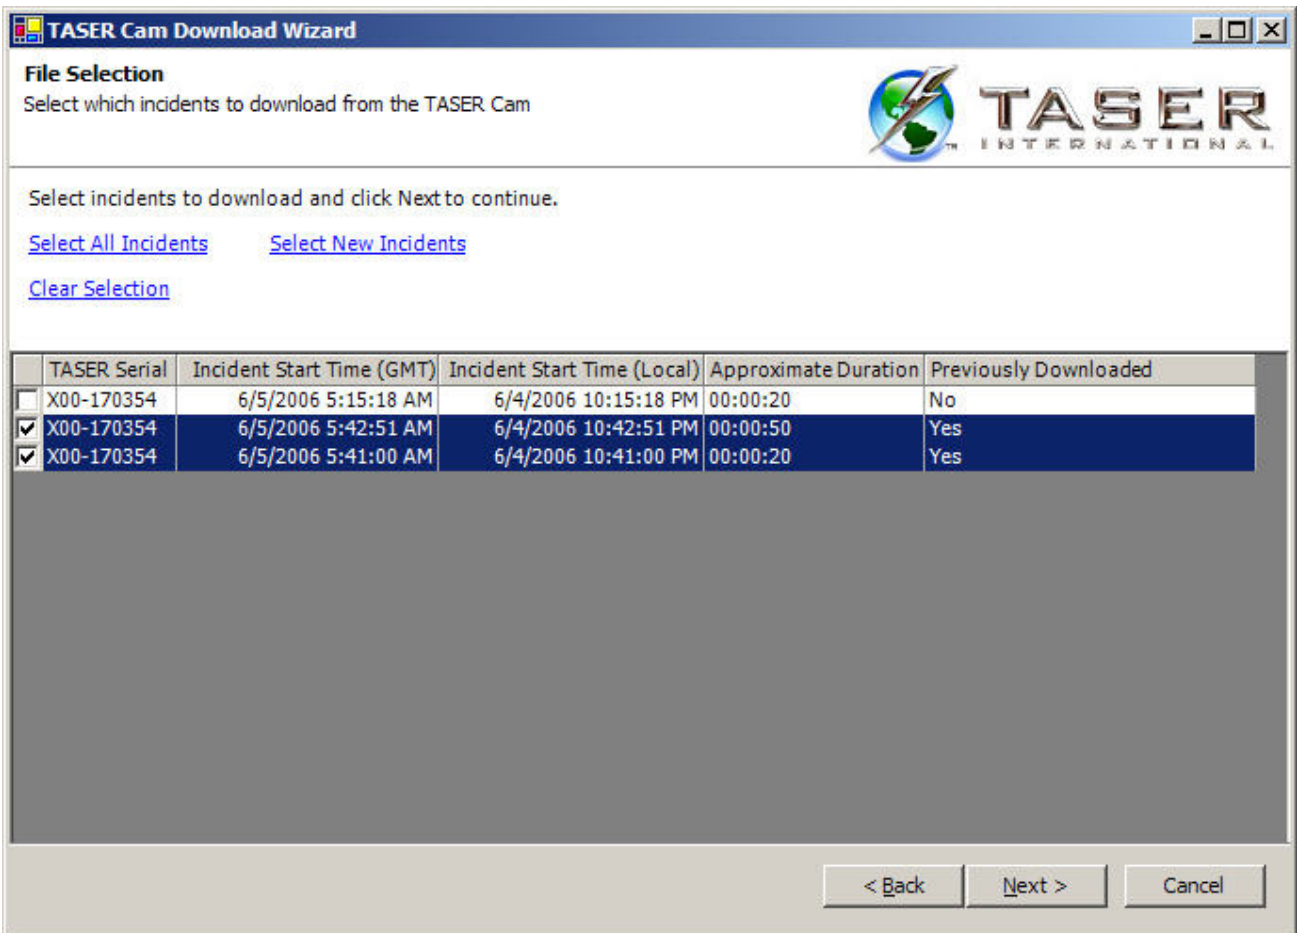

Figure 13
5. Select which incidents/video files to download from the TASER CAM (Figure 13).